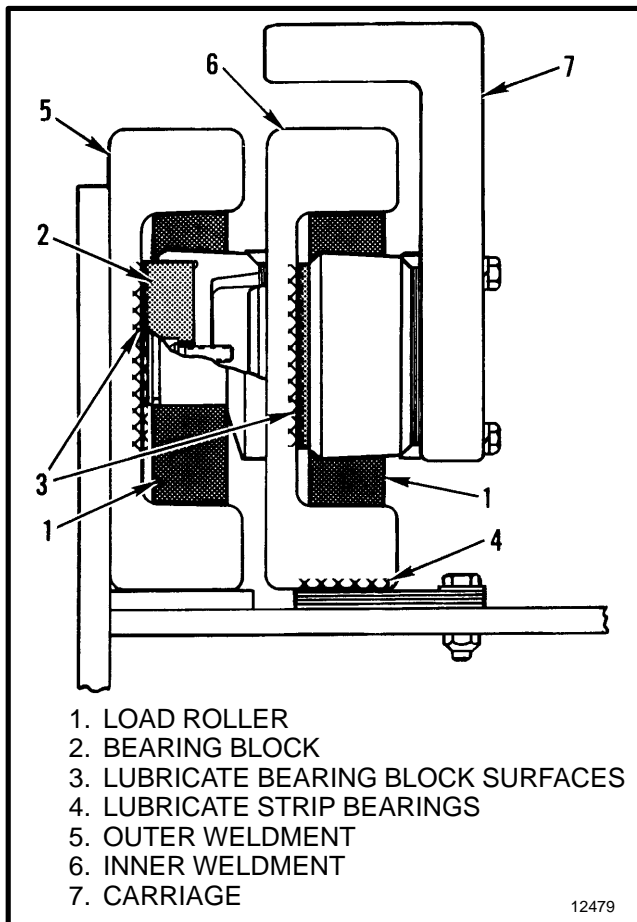

FIGURE 19. LUBRICATE THE MAST
MAST (See FIGURE 19.)
1. Lubricate the sliding surfaces for the bearing blocks along the full length of the channels as shown in FIGURE 19. Apply lubricant only to the indicated surfaces.